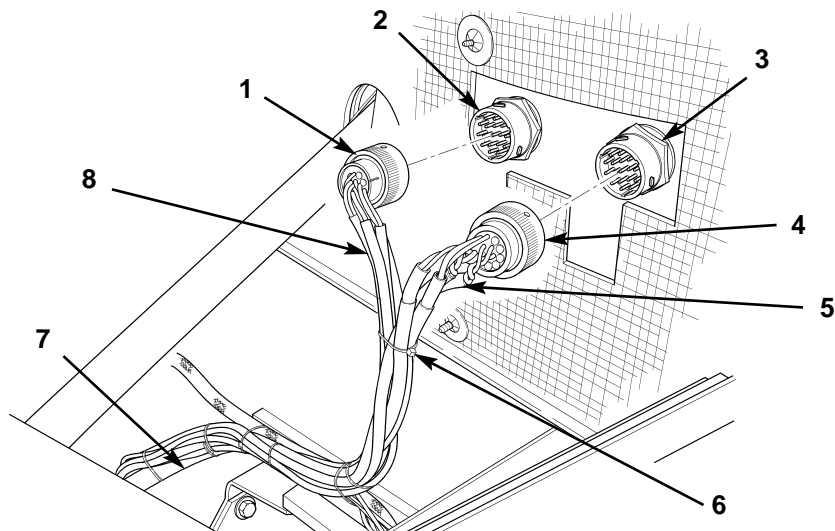

Figure 4. Disconnecting and Separating Wheel Sensor and Modulator Harnesses.
7. Disconnect speed sensor harness connector (figure 4, item 4) and modulator harness connector (figure 4, item 1) from bulkhead connectors (figure 4, items 2 and 3). Remove all speed sensor and modulator harness leads (figure 4, items 5 and 8) from left frame rail (figure 4, item 7).
8. Lay out speed sensor harness lead (figure 4, item 5) and modulator harness lead (figure 4, item 8) on shop floor and remove remaining tie straps (figure 4, item 6) to separate. Discard tie straps (figure 4, item 6).